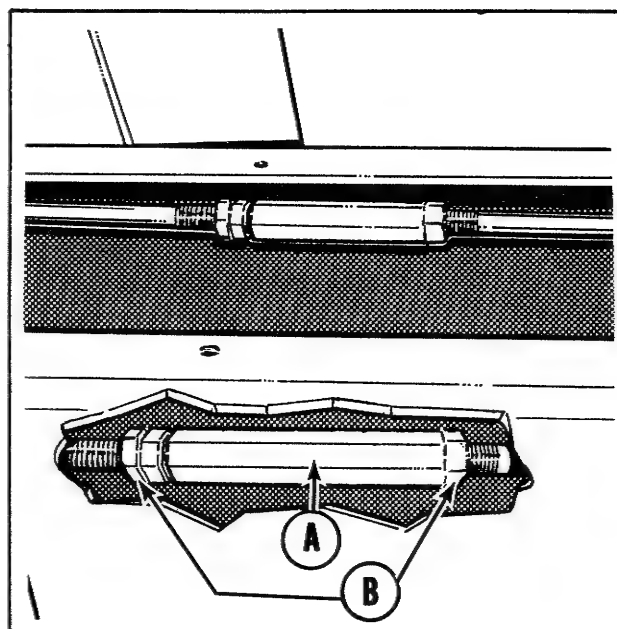

Figure 17. Brake adjustment turnbuckles as seen from above tractor frame.
3. See figure 17. Adjust the left brake first. You will need two 9/16" open end wrenches. Use one wrench to hold the turnbuckle (A), the other to loosen the lock nuts (B) at either end of the turnbuckle. Turn the turnbuckle counter-clockwise (as you stand behind it looking toward the front of the tractor) to tighten the brake. Alternately turn the turnbuckle and check the brake travel until the brake travel